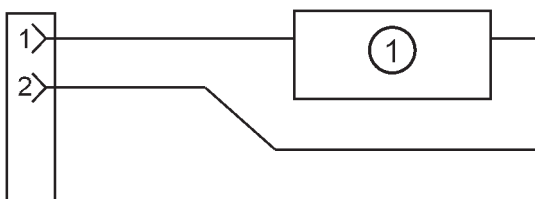

Figure 26
Figure 26 shows a neutral safety switch (1), between the starter interlock pins 1 and 2.